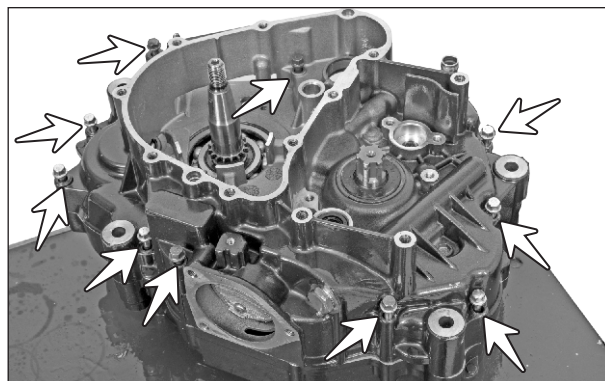

Fig. 3.189
- Assemble and tighten hexagonal flange bolts (M6x55 - 5 nos., M6x40 - 4 nos., M6x75 - 4 nos. and M6x95 - 1 no.) on the crankcase complete LH. (Fig. 3.189)